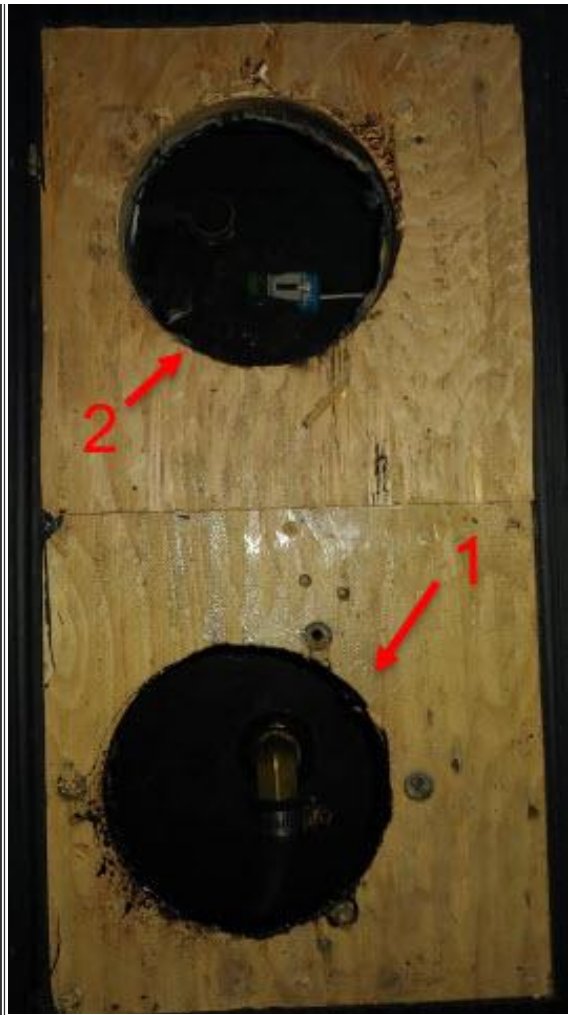

Figure 4: Dual holes
2. Take your 4.5" hole saw and cut a new hole as shown in figure 4. Note for recessed plates, the floor mat will need to be cut out of the way as shown in figure 4.